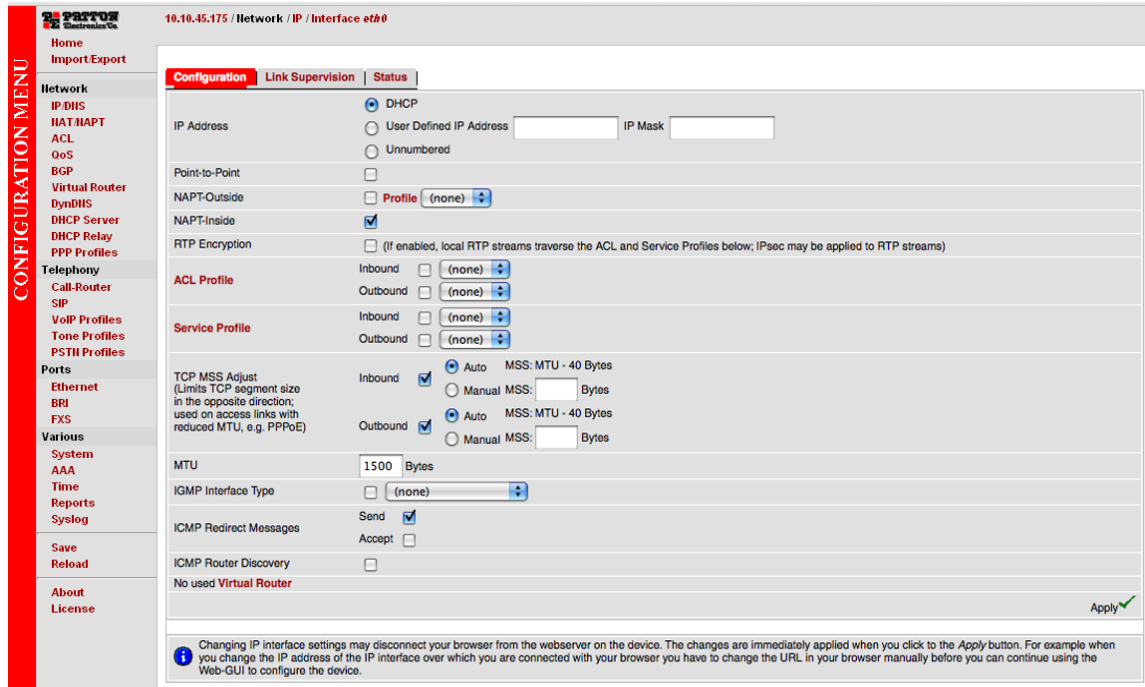

Figure 14. Ethernet Configuration page
1. In the configuration menu pane, click *IP/DNS*. In the *Interfaces* section, click on **eth0**. The Configuration screen for the Ethernet port displays (Figure 14).
The SmartNode supports two configuration options for the Ethernet connection (see Figure 14), as described in the following paragraphs: